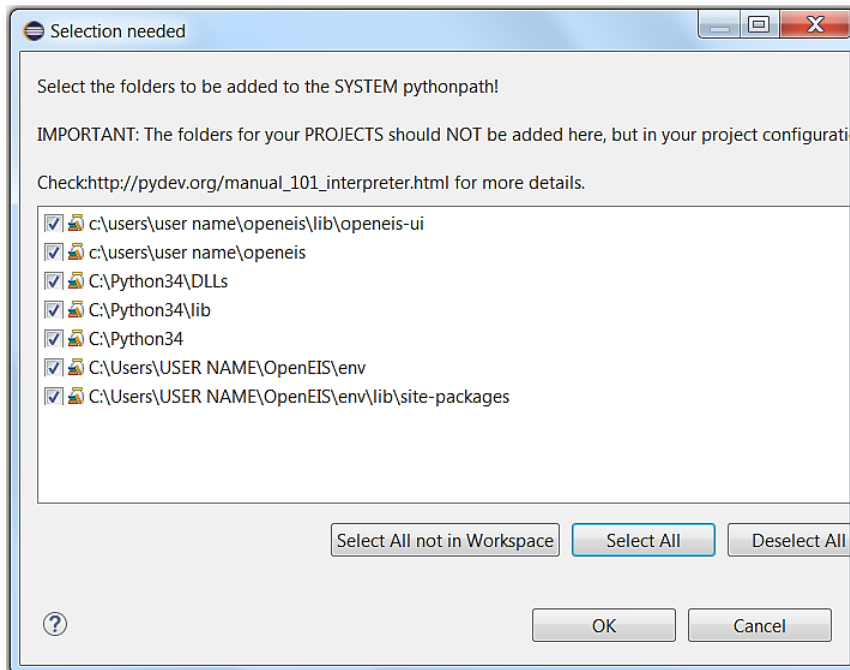

Figure 28: Configuring PyDev (continued)
- Choose Select All -> OK (Figure 28)